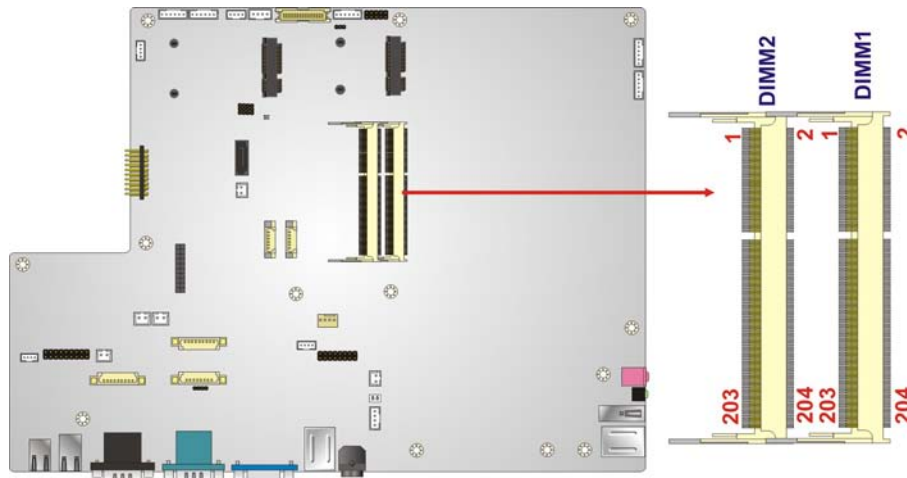

Figure 5-8: DDR3 DIMM Slot Locations
- CN Location: See **Figure 5-8**